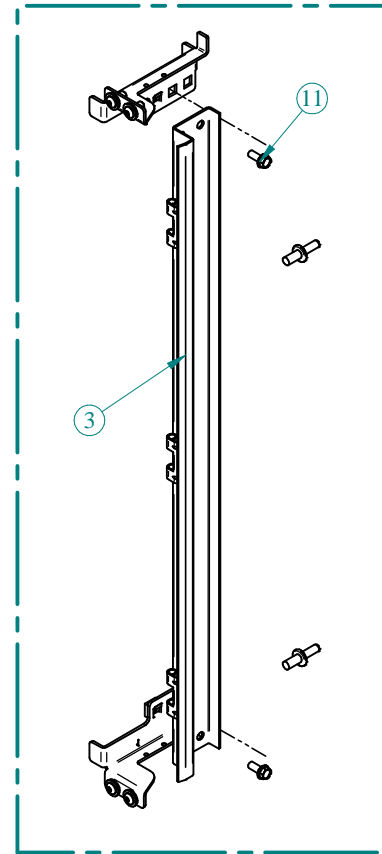

FIG. 4
4. Install vertical rails. (Fig. 4)